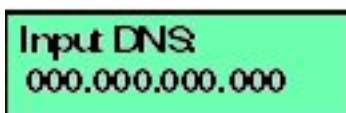

Figure 3.24. LCD Panel (Input DNS)
7. Use the arrow keys as described in step 2 to input a new gateway IP address, then press **ENTER**. The following message displays (Figure 3-24) with the default DNS server IP address of 0.0.0.0.